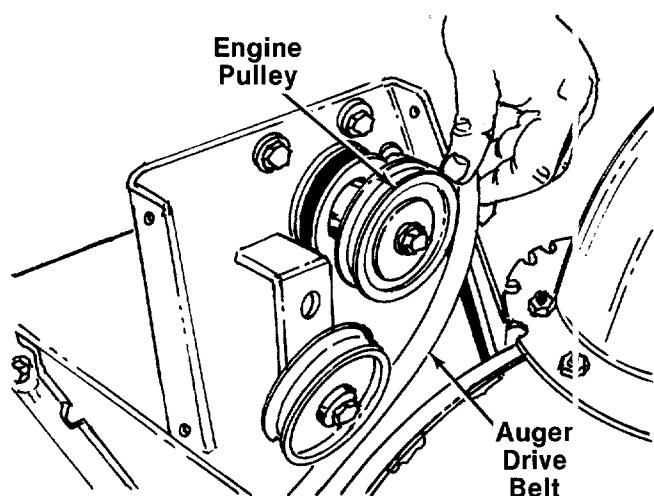

FIGURE 28.
4. Slip the auger drive belt (the front belt) off the engine pulley. See figure 28.